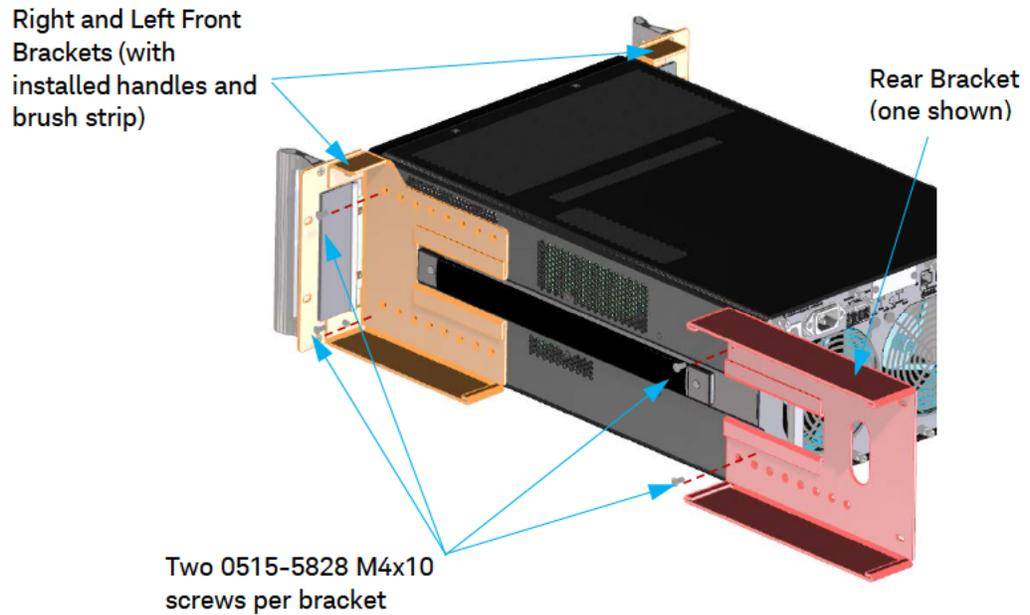

Figure 6 Attach Front and Rear Brackets to Chassis
- 3 Assemble Right and Left Front Brackets and Rear Brackets to the chassis. Use two 0515-5828 M4x10 screws per bracket. Use the front mounting holes (as shown in Figure 6) to flush-mount the chassis to the front of the rack. Match the holes in the front and rear brackets for the desired depth of installation. See Figure 6.